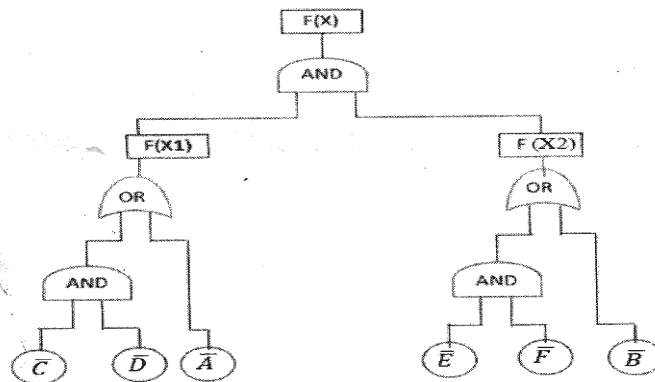

Figure 4
b) The figure 4 is a fault tree diagram. The elements A, C and D have failure. [9]